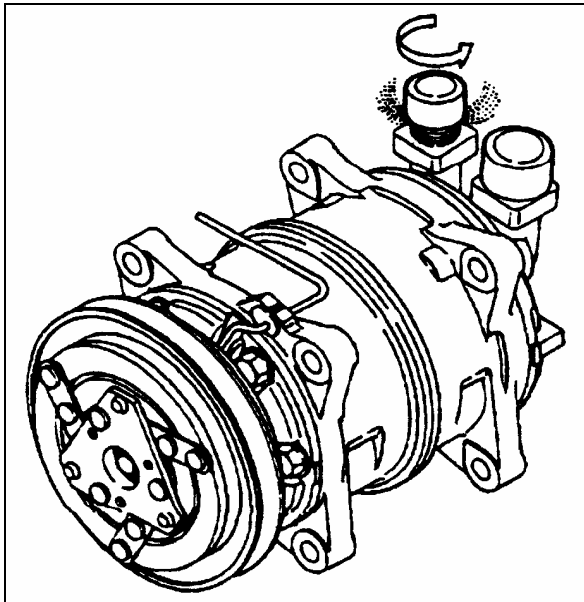

FIGURE 35: LOOSENING THE DISCHARGE SIDE CONNECTOR'S CAP
- Loosen the discharge side connector's cap and gently release N² from compressor (Refer to Figure 35).